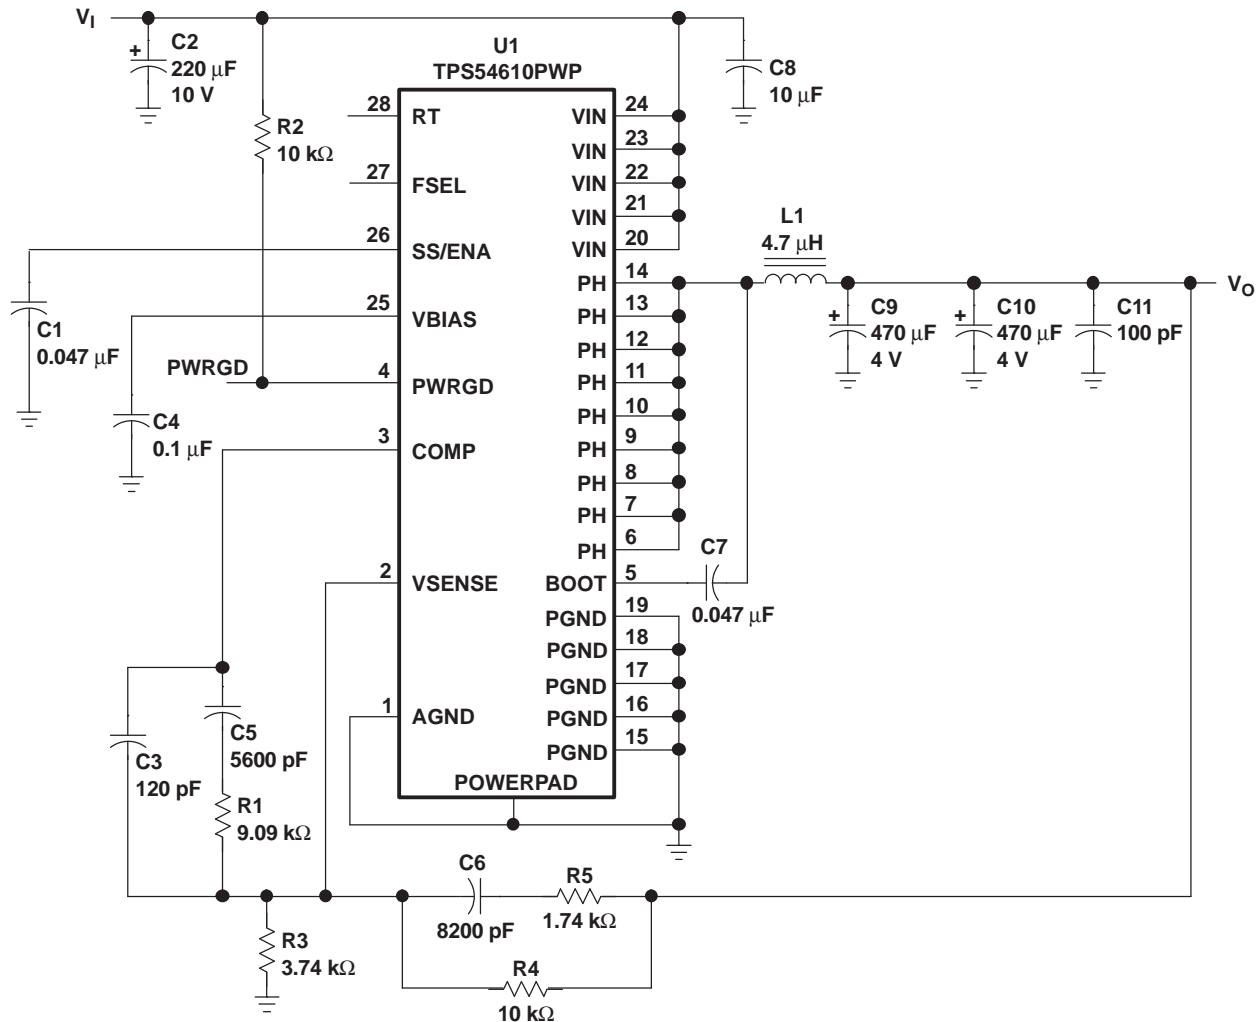

Figure 10. Application Circuit
- (1) Specified by design
- (2) Static resistive loads only
- (3) Specified by the circuit used in Figure 10.
Figure 10 shows the schematic diagram for a typical TPS54610 application. The TPS54610 (U1) can provide greater than 6 A of output current at a nominal output voltage of 3.3 V. For proper thermal performance, the exposed thermal PowerPAD under the integrated circuit package must be soldered to the printed-circuit board.